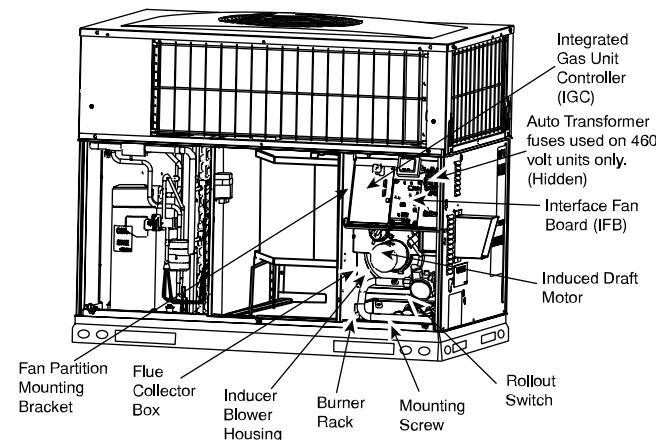
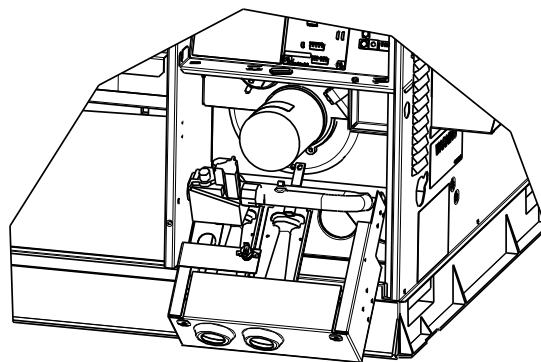

Fig. 38 – Blower Housing and Flue Collector Box
Fig. 41 – Burner Rack Removed (Standard and Standard Low ^{A07680}NO_x Models Only)
3. Slide the assembly out of the unit. (See Fig. 41). Clean the blower wheel. If additional cleaning is required, continue with Steps 4 and 5.
2. Remove the 11 screws holding the flue collector box cover (See Fig. 38) to the heat exchanger assembly. Inspect the heat exchangers.
Unit is equipped with a direct spark ignition 100 percent lockout system. Ignition module (IGC) is located in the control box (See Fig. 38). Module contains a self-diagnostic LED. During servicing, refer to label diagram or Table 12 in these instructions for LED interpretation.
5. Remove fan partition mounting bracket (2 screws located on the left side of control compartment on the fan partition panel). Slide bracket forward, bottom first, to remove. (See Fig. 38.)
7. Remove the mounting screw that attaches the burner rack to the unit base (See Fig. 38).
8. Partially slide the burner rack out of the unit (see Fig. 38 and Fig. 41). Remove ignitor and sensor wires at the burner assembly. Remove wires to rollout switch.
9. Slide the burner rack out of the unit (See Fig. 38 and Fig. 41).